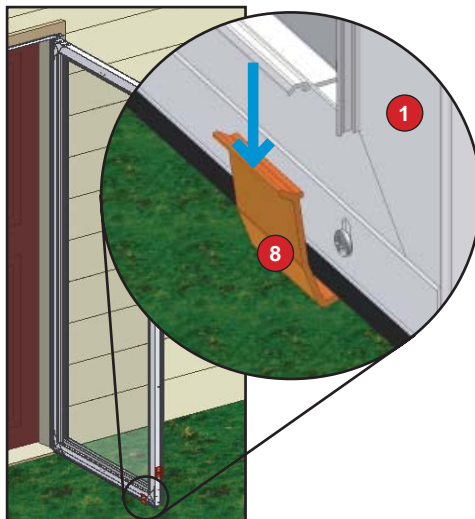

Figure 16
4. Remove bottom spacer by pressing down on raised lip. (Figure 16)